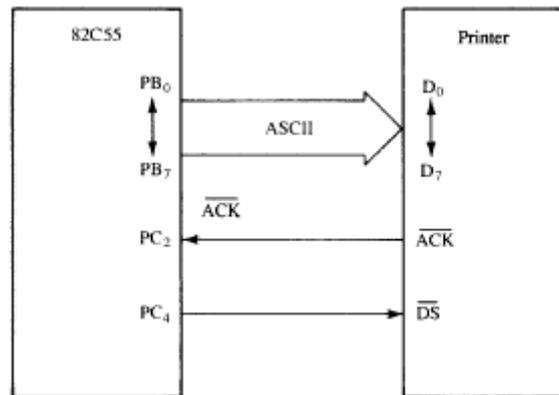

Figure 11-30: The 82C55 connected to a parallel printer interface that illustrates the strobed output mode of operation for the 82C55
- \overline{DS} (data strobe) input is used to strobe data into the printer. \overline{ACK} output is used to acknowledge the receipt of the ASCII character (Figure 11-30).